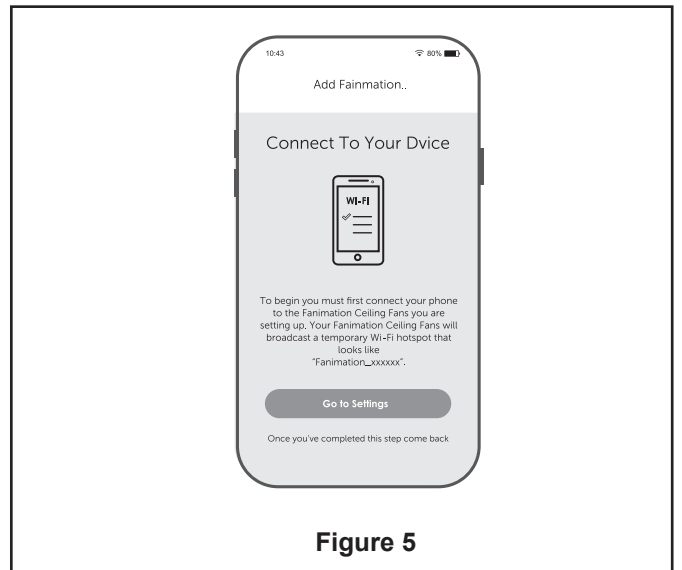

Figure 5
- 5. At this stage, your ceiling fan WiFi receiver should be installed and within range of your WiFi router. With the APP open, select "add device". (Figure 5)